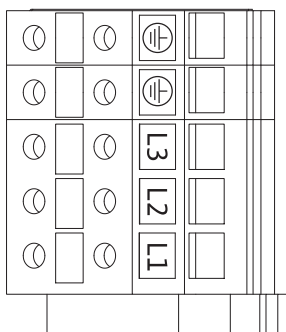

Fig. 25: Borne de putere
- Borne electrice (borne de rețea) (Fig. 25)